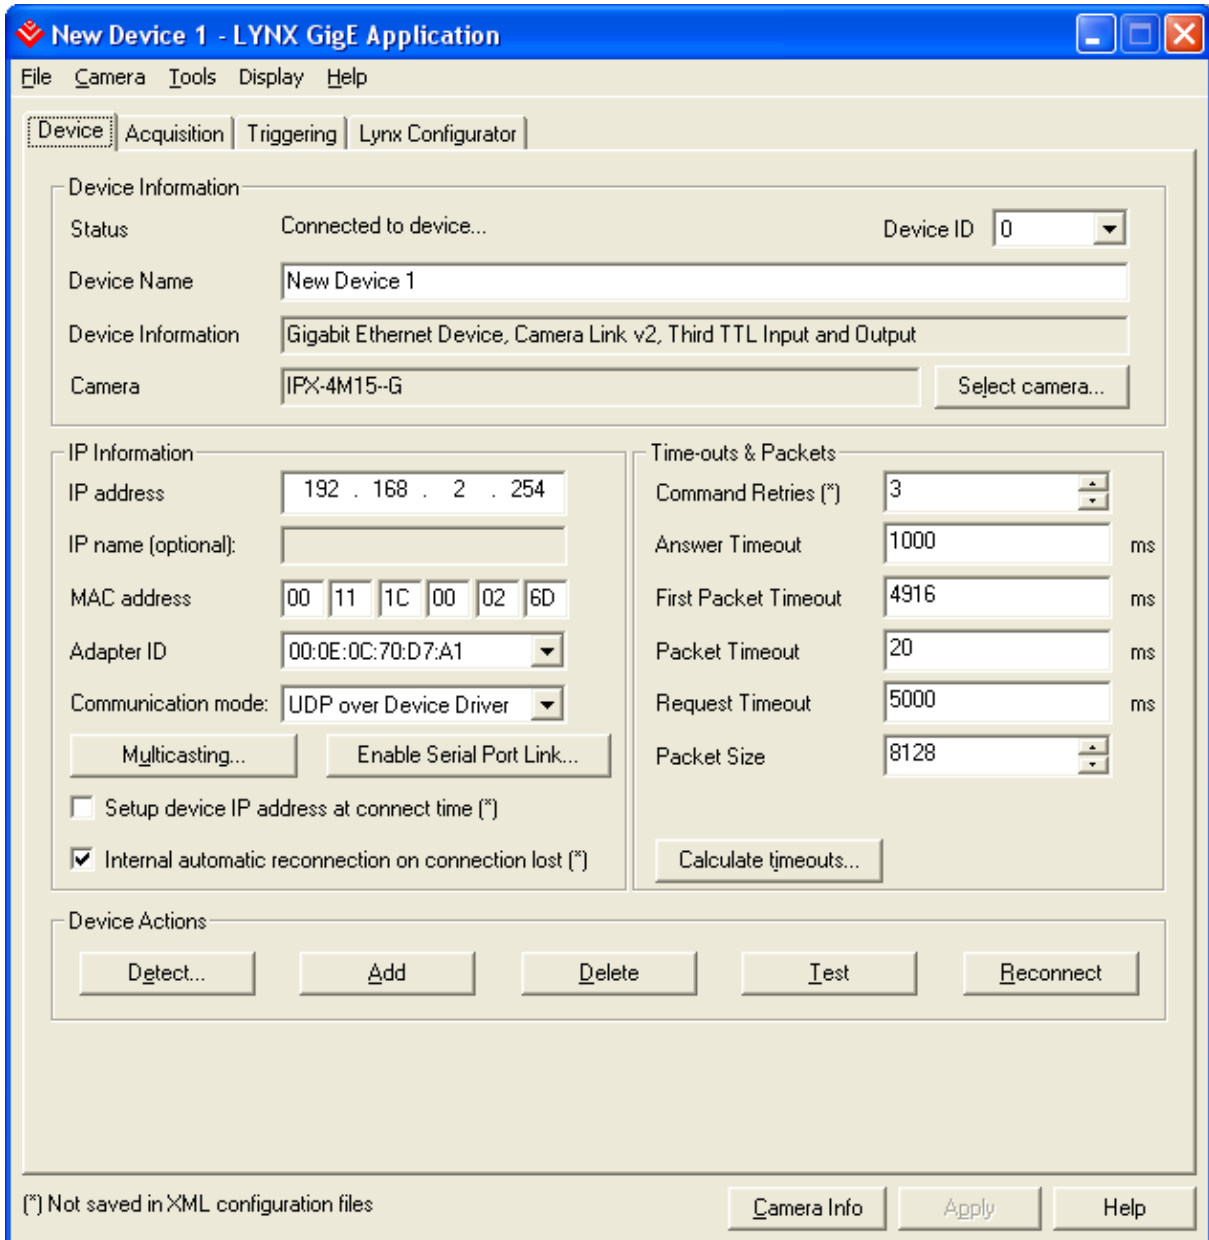

Figure 3: Device Panel
The Device panel is used to edit the configuration of the GigE camera being used in the application. As shown in Figure 3, the controls on this page display the configuration of the currently selected GigE camera.
- **Enable Serial Port Link...:** Activates the Serial Port Communication panel shown in Figure 3. See Section 3.2.4 on the Serial Port Link, below, for more information.